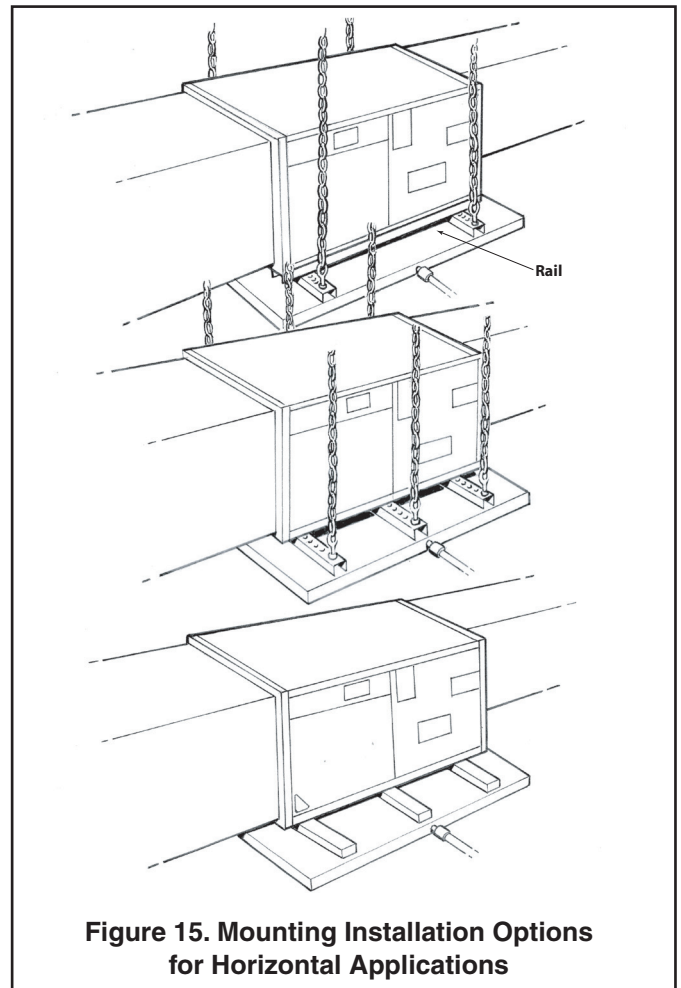

Figure 15. Mounting Installation Options for Horizontal Applications
- If the unit is suspended, it must be supported from the bottom near both ends as well as the middle to prevent sagging. The service access must remain unobstructed. If the unit is supported along the length of the front and back with rails, the air handler only needs to be suspended at both ends. See Figure 15.